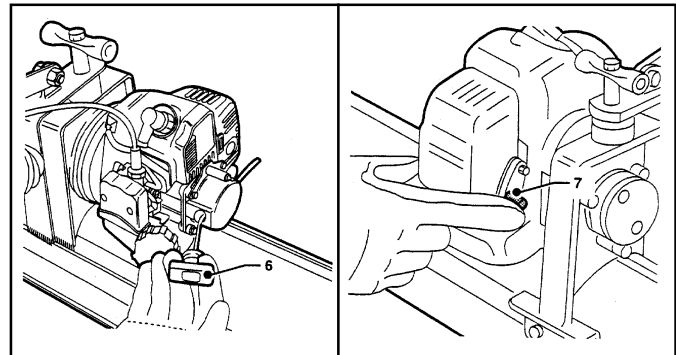

Figure 2.6
7. Give the starter rope (6) (Fig 2.6) a rapid vigorous pull until the engine fires.
— Press the black stop-button (7) for a couple of seconds until the engine stops. (Fig 2.6)